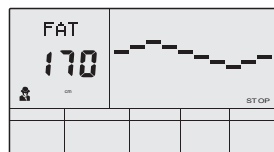

fig 34
- A. Press(or rotate) UP, DOWN button to select BODY FAT TEST program (See fig 34)